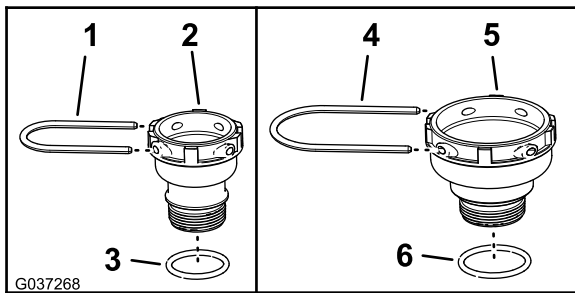

Figure 4
2. Assemble the O-ring 38 x 46 mm (1-1/2 x 1-13/16 inches) onto the fitting 31.8 mm (1-1/4 inches) as shown in Figure 4.
3. Assemble the O-ring 45 x 53 mm (1-3/4 x 2-3/32 inches) onto the fitting 38.1 mm (1-1/2 inches) as shown in Figure 4.